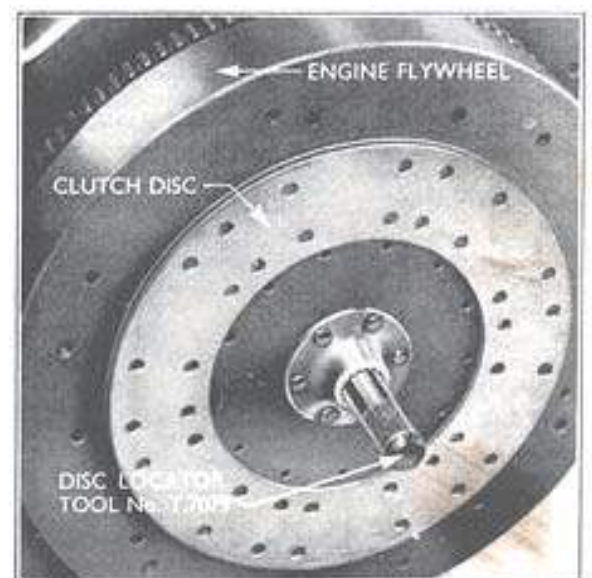

Fig. 4
1. Locate the clutch disc on the clutch disc locator (Tool No. T.7079) with the longer boss of the disc hub adjacent to the handle of the tool and insert the small diameter end of the tool into the clutch pilot bearing so that the clutch disc is against the face of the flywheel (see Fig. 4).